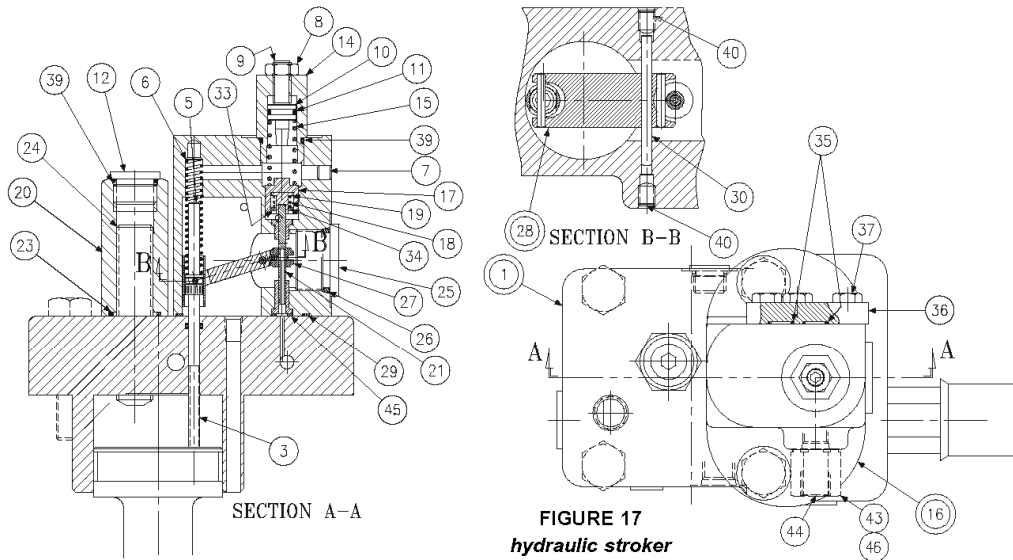

FIGURE 17
PARTS LIST FOR FIG. 17
1. See figure 17. Remove 2 screws holding body (16) to cap assembly (1).
2. Remove all parts from body (16) except pin (30) and arm assembly (28). It is not necessary to remove these parts unless broken or worn. Examine parts for wear or damage.
3. Remove screw (3). Examine head for excessive wear, and body for smooth sealing surface with O-ring.
2. Install spool (6) into bore as shown. Install spring (11) over end of spool.
3. Install O-ring (8) on spring retainer (7). Install retainer (7), screw (13), and nut (14) in plug (4).
4. Install O-rings (10) and (15) on plug (4). Install plugs (4) and (12) in body (1). Install .047", 1,19 mm orifice (19), and .071", 1,98 mm orifice (20) and plugs (2) and (17). Torque plugs. Install O-ring (21) in cap.
5. Turn screw (13) in until spring retainer (7) contacts spring (11). Turn an additional 1-1/2 turns and lock in position.
8. See figure 17. Apply thread locking compound on threads of screw (3), lubricate the shank, thread through the cap into the control piston, and torque to 5 lb.-ft., 6,78 Nm.
9. Install minimum stop screw (24) and turn clockwise to stroke pump to full volume. Measure height from control cap to top of screw (3). With control piston at full displacement, dimension must be .74 +/- .03 in., 18,8 +/- 0,76 mm. Back out minimum stop screw (24) till there is no contact with control piston.
10. Press dowel (30) into body (16), through the link (28), to 1/4", 6,35 mm below surface. Apply hydraulic sealant to threads of screws (40) and install over dowel (30).
11. Press spool (21) into retainer (19). Caution: do not use excessive force. Place spool/retainer assembly into spool (17) with spring (18) and washer (34). Secure with retaining ring (33).
12. While sleeve (27) is engaged into dowel on link (28), slide above spool assembly into bore of body (16), and through sleeve (27). Spool (21) must move freely and easily at all positions of the link (28).
13. Assemble all other components into body (16) per above drawing. Torque plug (12).
14. While spring retainer is engaging clevis pin (5) under dowel of link (28), slide the other opening of spring retainer over the top of the screw (3). Attach body assembly (16) to cap (1) with two screws and torque to 75 lb.-ft., 102 Nm.